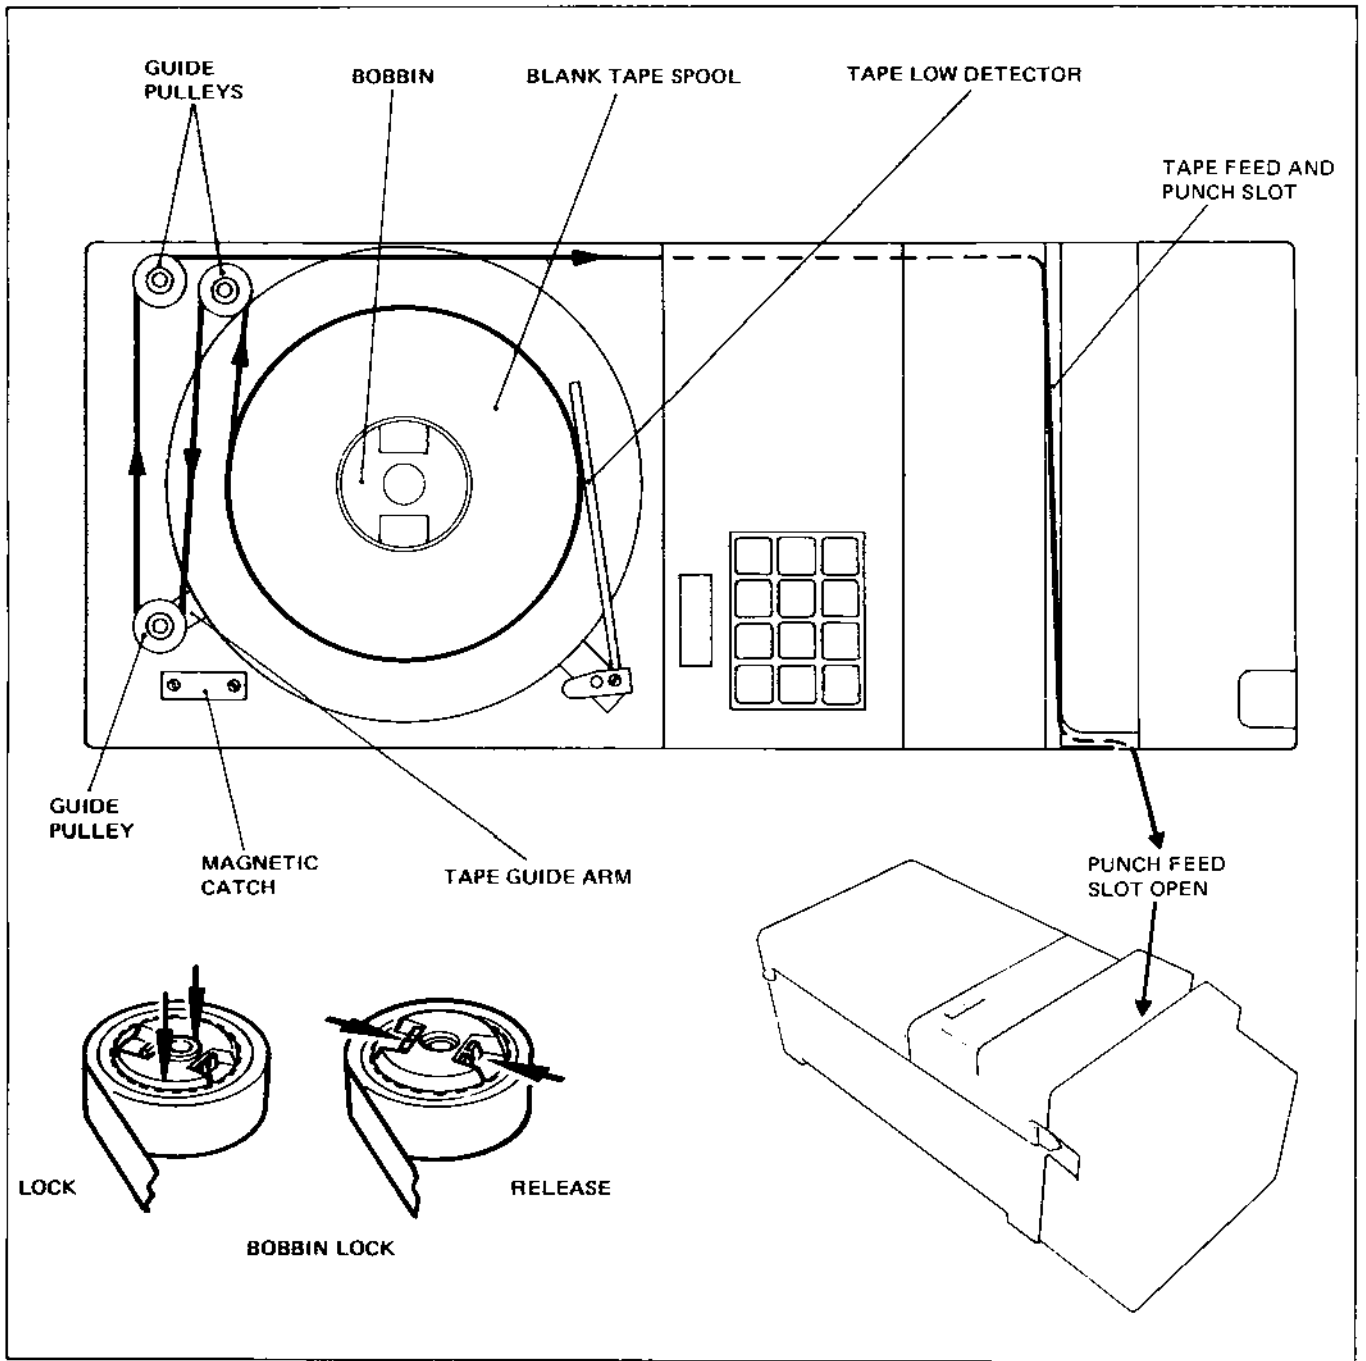
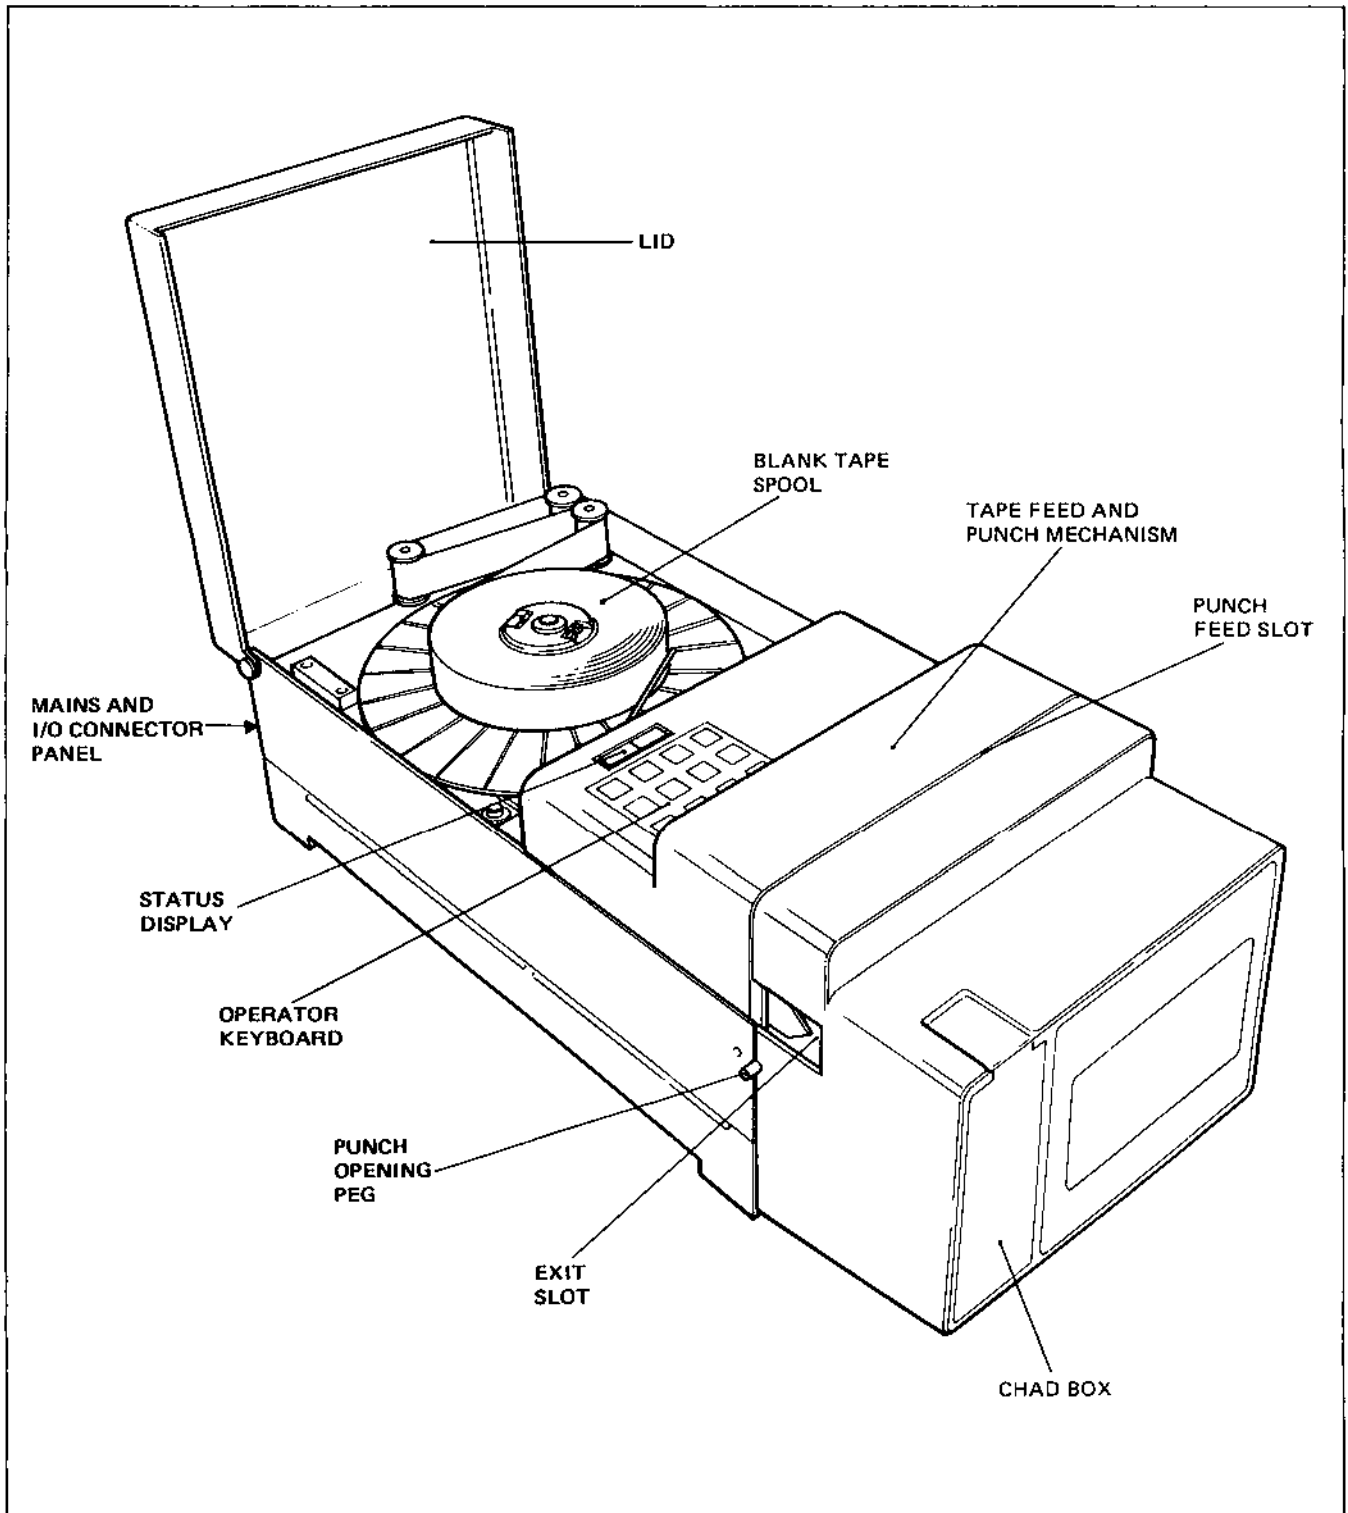

Fig. 1.1 Punch Tape Loading
Fig. 2.1 Facit N4000 Punch
The tape path through the punch is shown in Fig. 1.1. The blank tape leaves the spool and passes around a pulley on the tape guide arm. The guide arm applies a progressively acting brake which operates on the tape bobbin. This operates to ensure that tape fed through the punch is maintained at a constant tension to ensure accuracy and consistency of punching.
With mains power switched OFF, load tape onto the punch tape holder as follows (see Fig. 1.1).
- (1) Move the tape guide arm until it touches the magnetic catch. This action applies the brake to the tape bobbin and frees the tape feed and punch mechanism.
- (2) Pull out 2 metres (6 feet) of tape from the new reel and place the reel onto the bobbin.
- (3) Lock the bobbin by pushing the centre section downwards by hand as far as possible (see Fig 1.1).
- (4) Push upwards the two punch opening pegs (located one at each side of the punch housing - see Figs. 2.1 and 2.2), and pull forward the punch assembly to open the tape feed and punch slot (see Fig. 1.1).
- (5) Lead the tape around the guide pulleys and drop it into the tape feed and punch slot.
- (6) Push back the punch assembly to close the tape feed and punch slot.
- (7) Release the tape guide arm from the magnetic catch.
- (8) Switch the power ON and depress the FEED key until the tape is taut, and feeding correctly from the spool.
The Facit N4000 is shown in Fig. 2.1. The blank tape is contained on a standard spool at the top rear of the unit, with the tape feed and punch mechanism housed under a cover towards the front of the machine. A semi-transparent lid covers the tape spool during normal operation, and the amount of tape left on the spool can easily be seen without raising the lid.